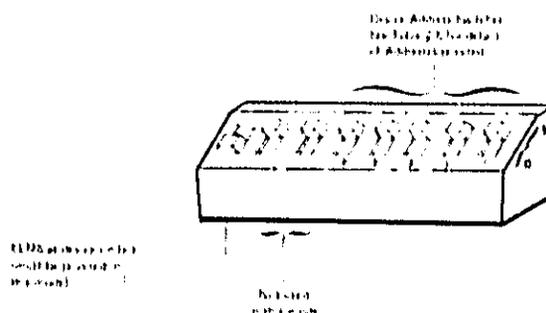

Figure 2-6 HP-IB Switches — SLMS as Device on Bus
2-52 The settings of the CNTRL switch (see Figure 2-6) on the SLMS rear panel to the CNTRL OFF (0) position configures the SLMS as an HP-IB device under the remote control of a separate HP-IB controller.
2-54 Each device in the HP-IB system requires a unique address to enable the system controller to differentiate between devices. The SLMS has one listen address and three talk addresses. The addresses are defined by the setting of the Device Address switches within the HP-IB switch bank on the SLMS rear panel. The setting of these switches and the corresponding listen and talk addresses are illustrated in Figure 2-6 and Table 2-5 respectively. Note that the device address switch must not be set between 29 and 31 inclusive since this will cause invalid addresses.